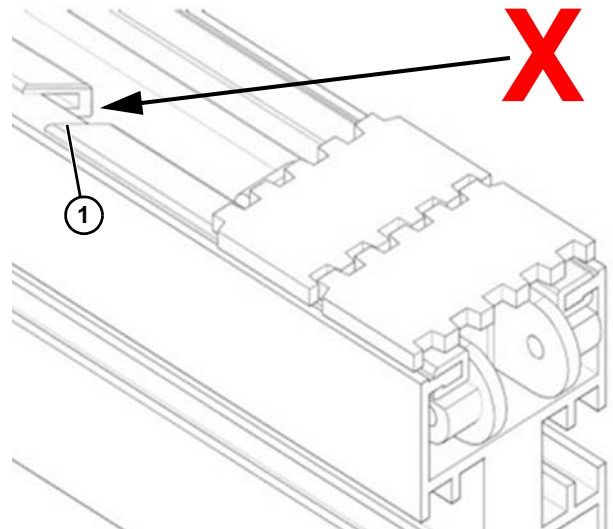

Figure 106
- Check that the gap (**Figure 106, item 1**) between the slide rails and that the joints fit correctly.